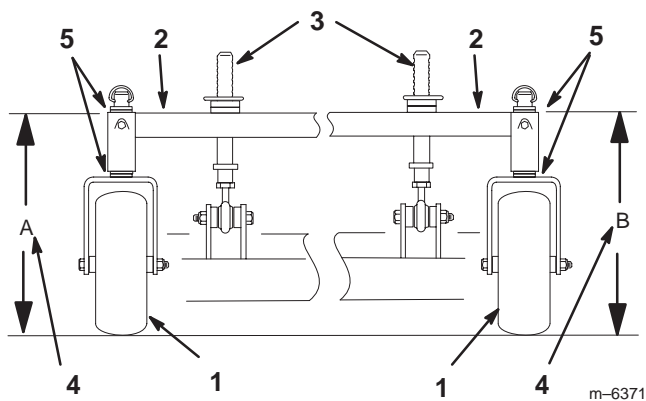

Figure 70
4. Measure carrier frame height at location **A** (Fig. 70).
5. Measure carrier frame height at location **B** (Fig. 70).